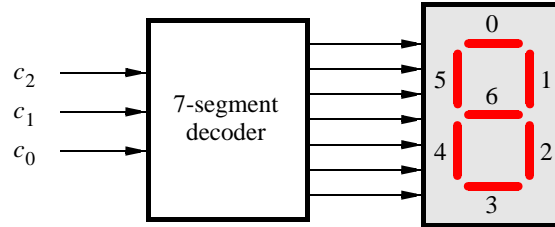

Figure 6: A 7-segment decoder.
Figure 6 shows a *7-segment* decoder module that has the three-bit input $c_2c_1c_0$. This decoder produces seven outputs that are used to display a character on a 7-segment display. Table 1 lists the characters that should be displayed for each valuation of $c_2c_1c_0$. To keep the design simple, only four characters are included in the table (plus the ‘blank’ character, which is selected for codes 100 – 111).
2. Create a Verilog module for the 7-segment decoder. Connect the $c_2c_1c_0$ inputs to switches SW_{2-0} , and connect the outputs of the decoder to the *HEX0* display on the DE2 board. The segments in this display are called *HEX0*[0], *HEX0*[1], ..., *HEX0*[6], corresponding to Figure 6. You should declare the 7-bit port